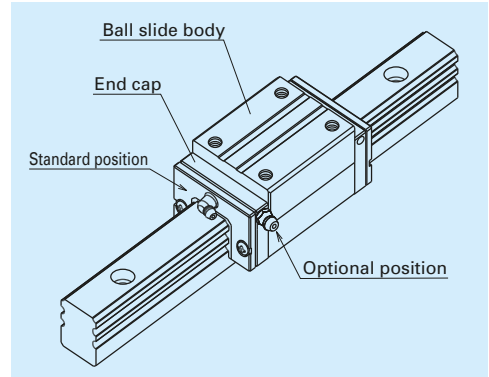

Fig. 11 Mounting position of lubrication accessories
- The standard position for grease fittings is at the end face of the ball slide, but we can mount them on the side of the end cap as an option. (Fig. 11)